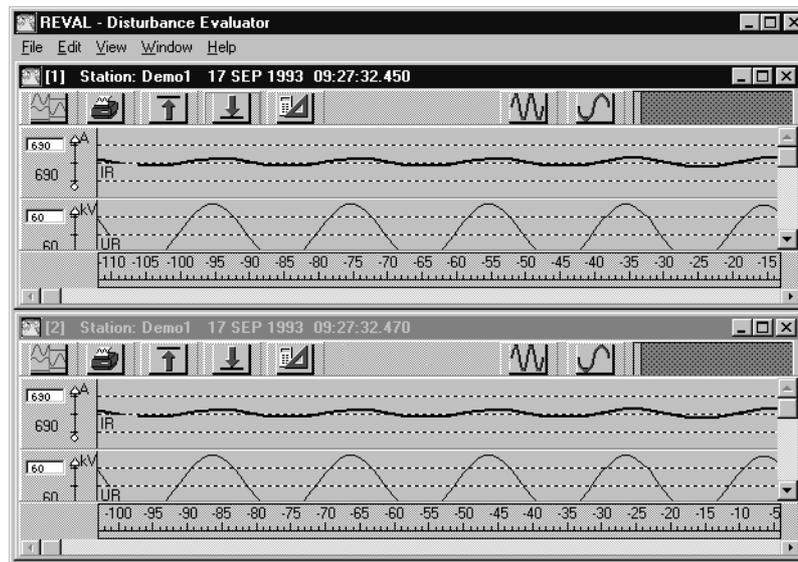

Fig. 11 The screen with two opened windows.
- 2 Select **Window/Tile** to make the two disturbances sharing the screen as shown in Fig. 11.